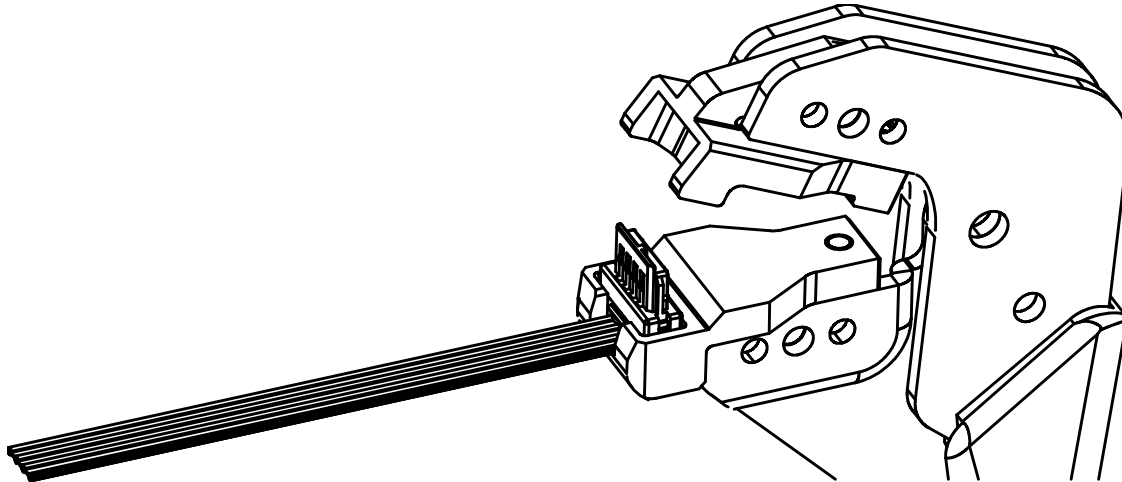

Figure 4
5.1. Crimping the Right-Angle Connector (Figure 4)
2. Place the right-angle connector in the die set nest with the cable insertion area facing away from the body of the tool as shown in Figure 4.